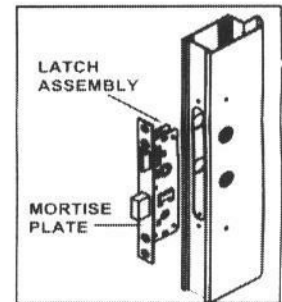

FIGURE 4
D. Insert latch assembly into end of door panel as shown in **Fig. 4**. **DO NOT** fasten at this time, fastening will be completed in **Step 2G**.